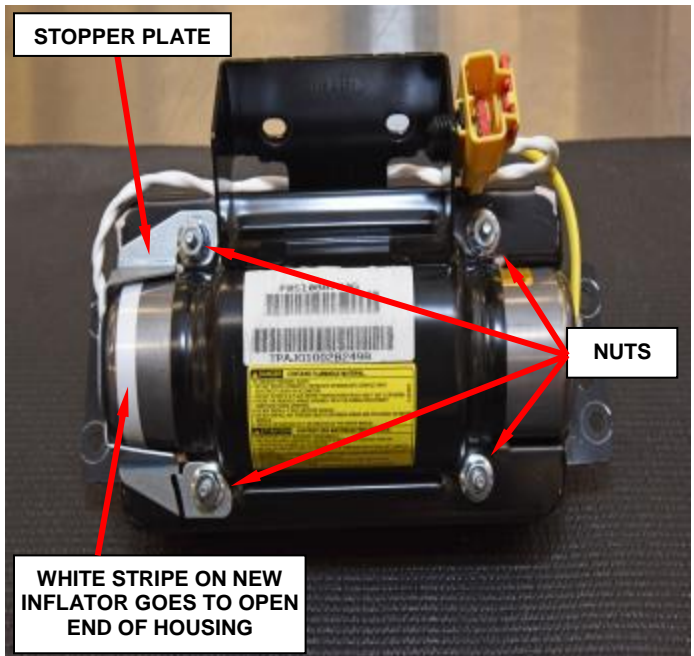

Figure 56 – Stopper Plate and Nuts
- i. Position the stopper plate to the airbag housing (Figure 56).
- j. Install the four **NEW** mounting nuts to the airbag housing and tighten to 53 in. lbs. (6 N·m) (Figure 56).